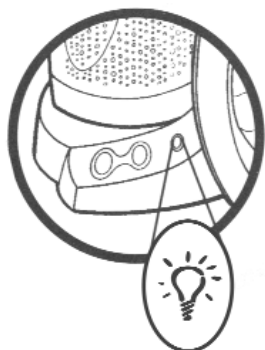

FIGURE 6
3. Press the process button twice. On the second press, hold until the status indicator light stays green (**FIGURE 6**). To indicate the program change is complete, the status indicator light will flash amber once.